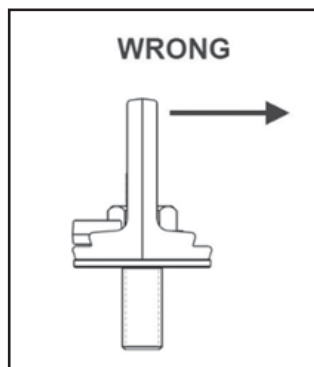

Figure 5
- Do not load in a direction perpendicular to the bail. (Figure 5)